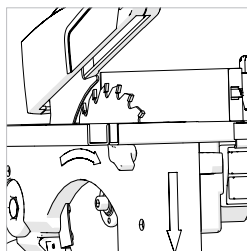

Fig. 21
- Slide the Fence Assembly up to the blade, raising the Blade Guard by hand so that the Face Plate rests alongside the blade and underneath the Blade Guard. **(Fig.21)**